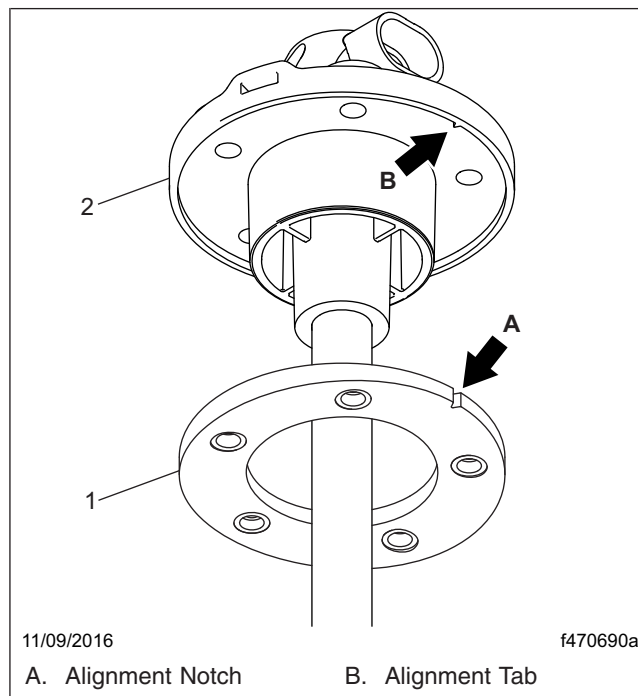

Fig. 3, Installing the Gasket
7. Install the gasket on the new KUS fuel-level sending unit, making sure the "UP" side of the gasket is against the unit head, and the alignment notch on the sender aligns with notch on the gasket. See Fig. 3.